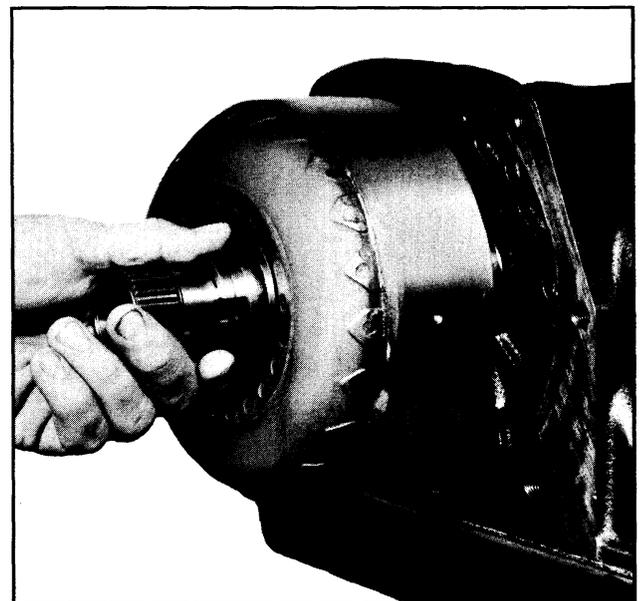

Fig. 3-25 Front Unit Coupling Removal
3. Slide the front unit coupling from the transmission. (See Fig. 3-25)